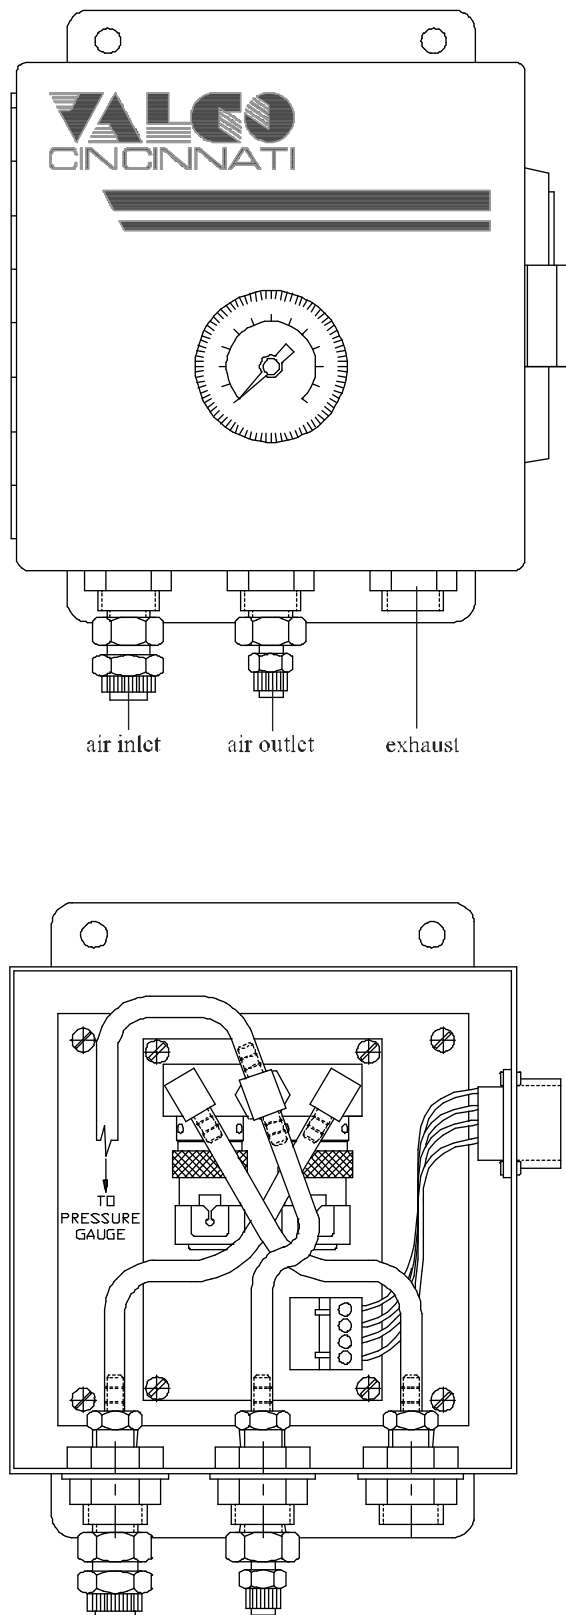

Figure 5-15. FPC-6 Pressure Transducer
- EPC-6 pressure transducer (077xx316) (Figure 5-15)